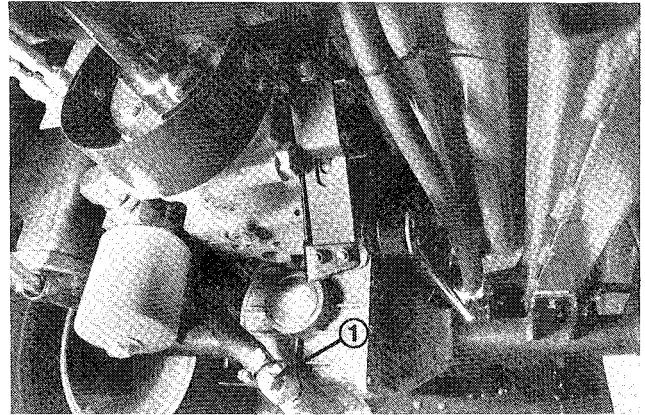

Figure 62
4. Remove drain plug from fitting between axle housing and oil filter and allow oil to flow into drain pan (Fig. 62).
6. Install drain plug in fitting between axle housing and oil filter (Fig. 62).
9. Leave machine set for two additional minutes, then remove dipstick and check oil level in axle (Fig. 63). If level is low, add oil until level matches groove in dipstick (Fig. 63). If level is too high, remove drain plug (Fig. 62) and drain oil until oil level matches groove in dipstick.